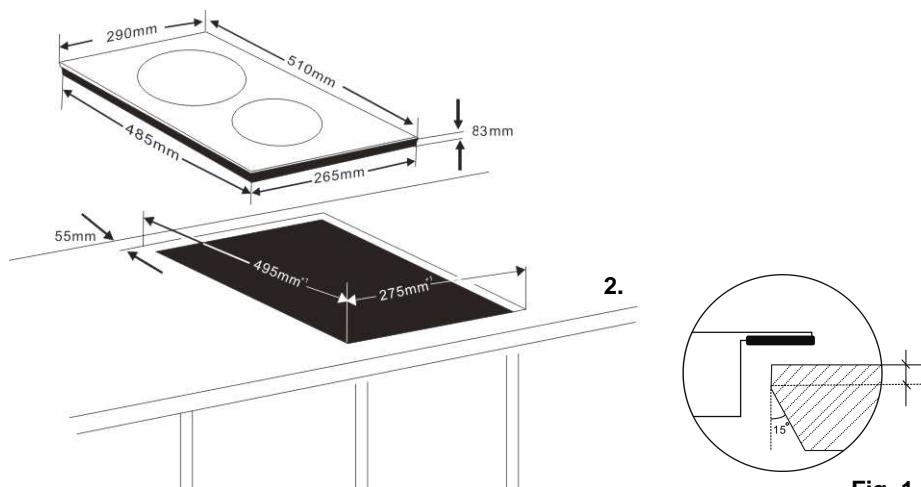

Fig. 1
3. Cut out an opening in the counter top as shown in the following drawing. (**Fig. 1**)
4. Alternatively to the way shown above, the induction cooker can be installed in level with the surface of the counter top if the surface is made of stainless steel or other material which is resistant to high temperature. (**Fig. 1**)